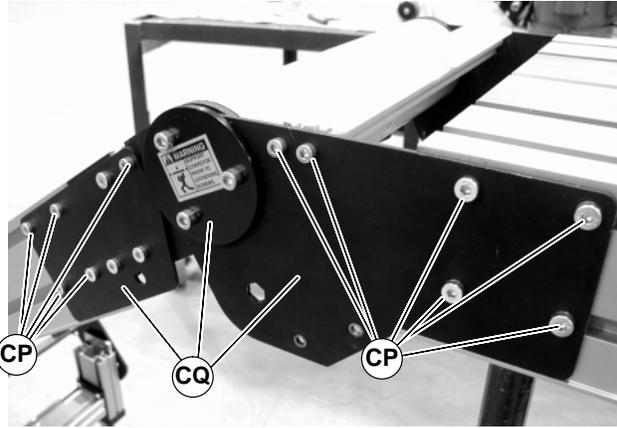

Figure 72
3. On one side of knuckle, remove screws (CP of Figure 72) and knuckle plate assembly (CQ).